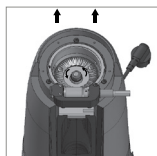

Fig. 8
9. Turn the nut on the motor axle in a clockwise direction. Preferably with a socket wrench. Hold the lower burr tray in place using a tool in order to avoid it turning when loosening the nut. Be careful to not damage any component (fig. 8).
10. Clean off coffee residue from the screws on the lower burrs (fig. 8).